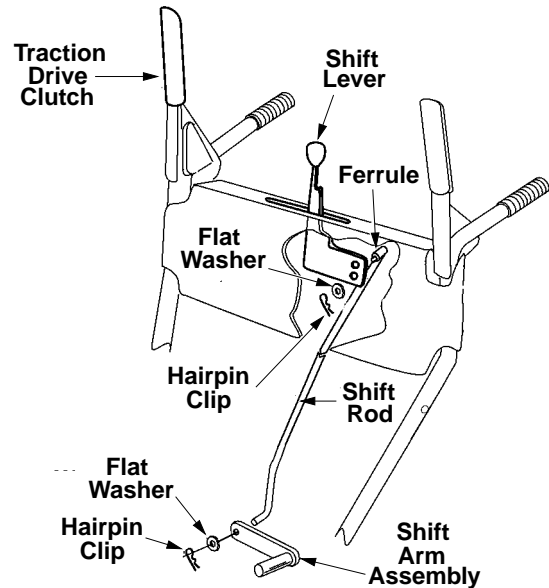

Figure 11
1. Place the shift lever in the fifth (5) or the fastest forward speed position.
2. **Models 642, 662:** Rotate the shift arm assembly counter clockwise, as far as it will go. Insert the shift rod through the shift arm assembly. When installed the shift arm assembly should point to the right. Secure with flat washer and hairpin clip. See Figure 11.
3. **Models 642, 662:** Thread the ferrule up or down the shift rod and align with the lower hole on the wider side of the shift lever assembly behind the handle panel. See Figure 11.